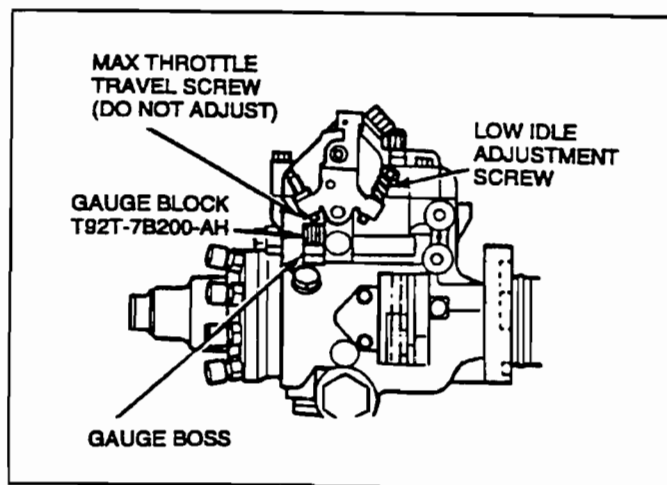

Figure 2
4. Insert the VRH Setting Gauge Block T92T-7B200-AH (.515") (13.06mm) between the gauge block boss and the maximum throttle travel screw, Figure 2. Hold the throttle lever open against the gauge block. A steady tone indicates the FIPL/TP is properly adjusted.